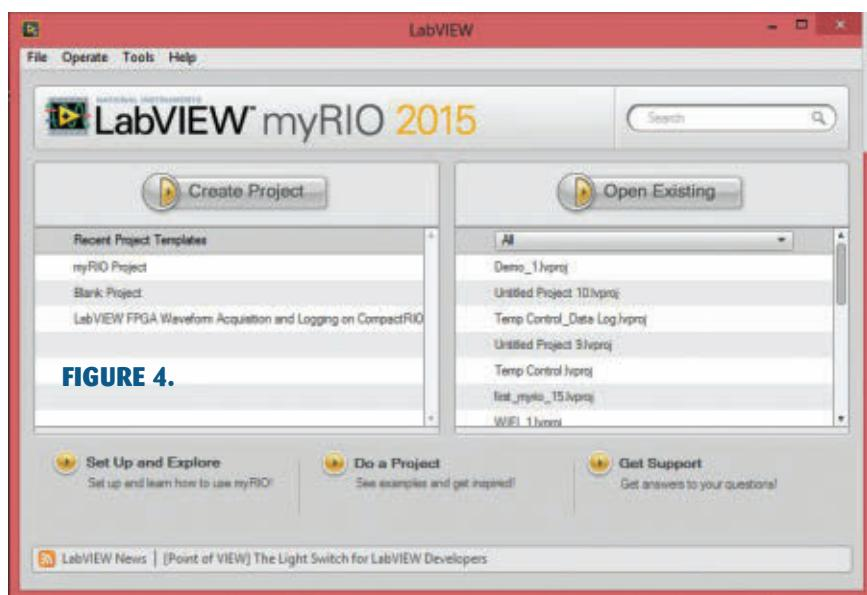
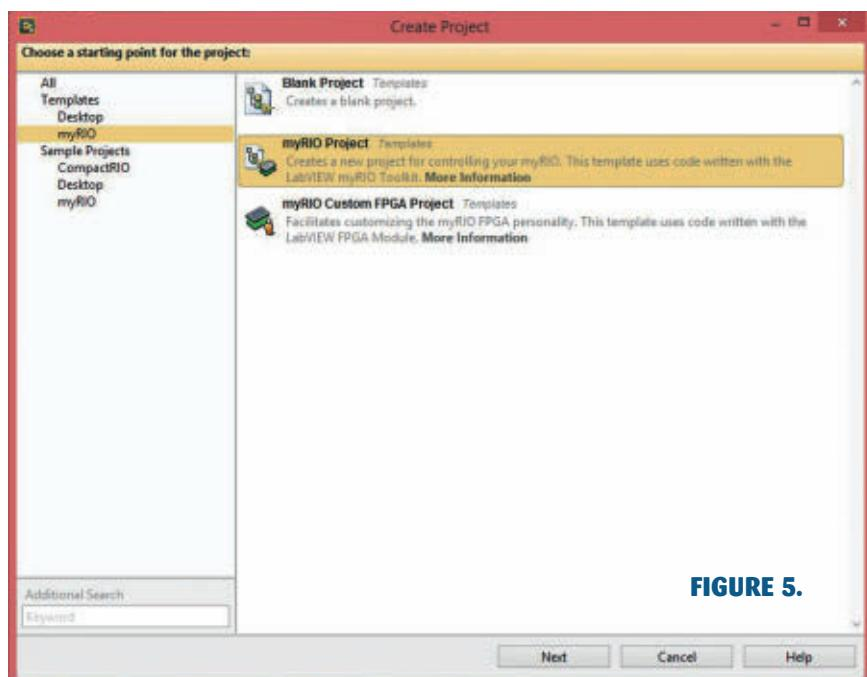
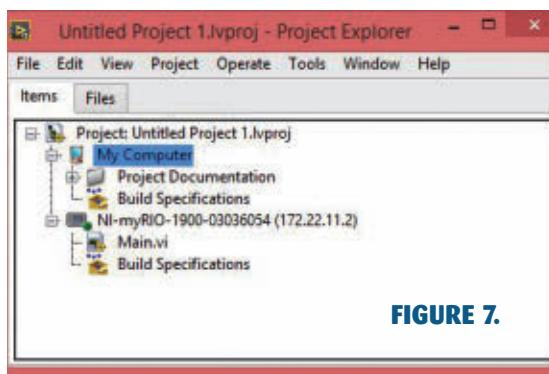
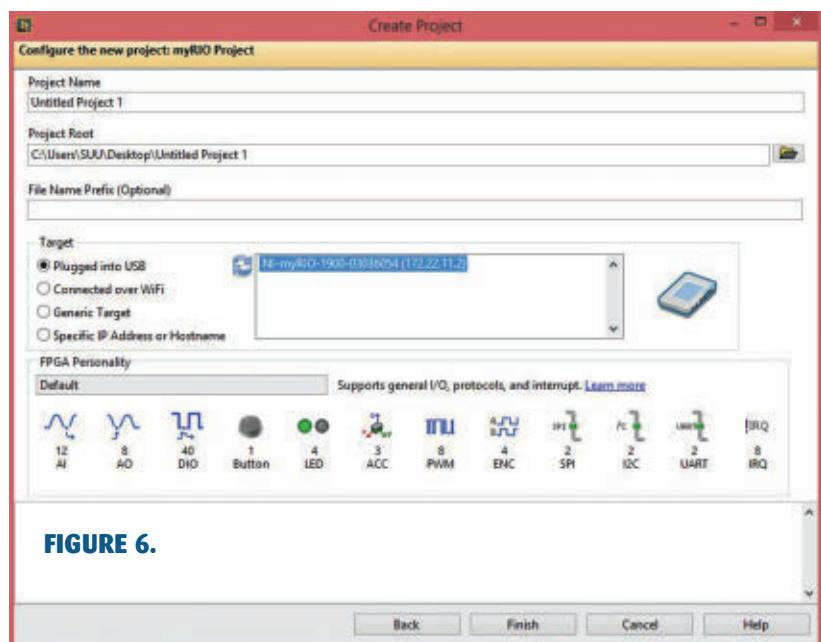

FIGURE 4.
FIGURE 5.
FIGURE 7.
FIGURE 6.
port — the myRIO USB monitor will pop up and give the user five options. Select the second option: Go to LabVIEW 2015 (**Figure 3**). After launching LabVIEW, you will see what's shown in **Figure 4**. From here, select Create Project. You should now see the window shown in **Figure 5**. Next, select myRIO > myRIO Project and you will see the window in **Figure 6**, and then finally check out the project view window in **Figure 7**.
flashing LED board was ready to use (Figure 4). It runs directly off a nine volt battery so no regulator is required (again, no micro makes this easier). The 3D print design could now be created because I had my final board size and component placement. I needed two holes in the box for the red LEDs to poke through. I also wanted an on/off toggle switch so a
■ FIGURE 5. Hollow box.
■ FIGURE 6. Holes in the box before grouping.
■ FIGURE 7. Final Tinkercad design.